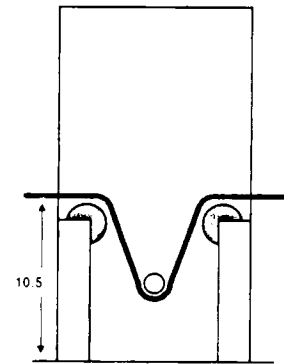

FIGURE 1.6.1A
1. Before mounting the operator to the pad, position the chain idlers as shown in figure 1.6.1A.
3. Position the operator on the pad so that there is a minimum clearance of one (1) inch between the back of the operator and the gate.